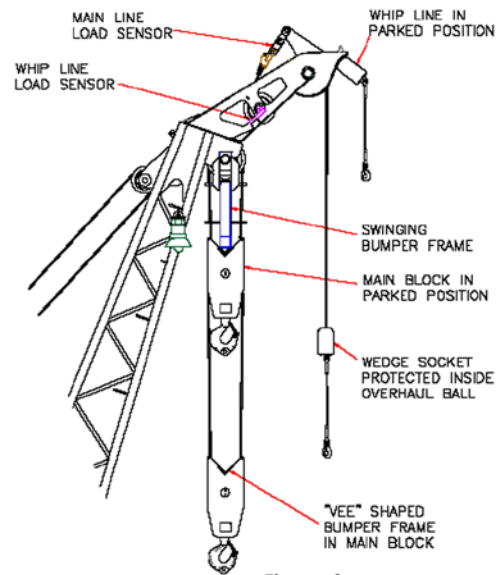

Figure 3
**Two-blocking** may also occur when crane operators over hoist the **hook block** (or **auxiliary hook**), regardless of the position or angle of the **boom**. Seatrax, through straightforward geometry, easily solves this problem. This simple system, depicted in Figures 3, 4 and 5, takes advantage of the hydraulic motors Seatrax cranes use to power their **hoists**. Unlike standard cranes, Seatrax uses a design that limits the maximum line pull the **hoist** develops to a safe value through the **hydraulic system's pressure relief valves**.
As Figure 3 demonstrates, the system includes a **swinging bumper frame** that follows the angle of the **main block**. Fixed to the **main block** is a v-shaped **bumper frame** that allows the **main block** to come into contact with the **swinging bumper frame**.